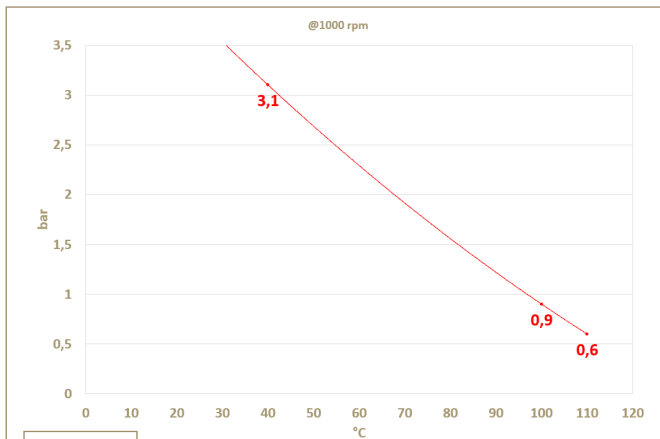

Fig. 12.9
- 3 - Start the engine at idle speed and without a load, check the oil pressure value according to the oil temperature (Fig. 12.9).
**NOTE:** The graph in Fig. 12.9 illustrates the pressure line with speed of 1000 Rpm.
- 4 - If the pressure values are below the values indicated in Fig. 12.9, check to identify the cause of the problem.